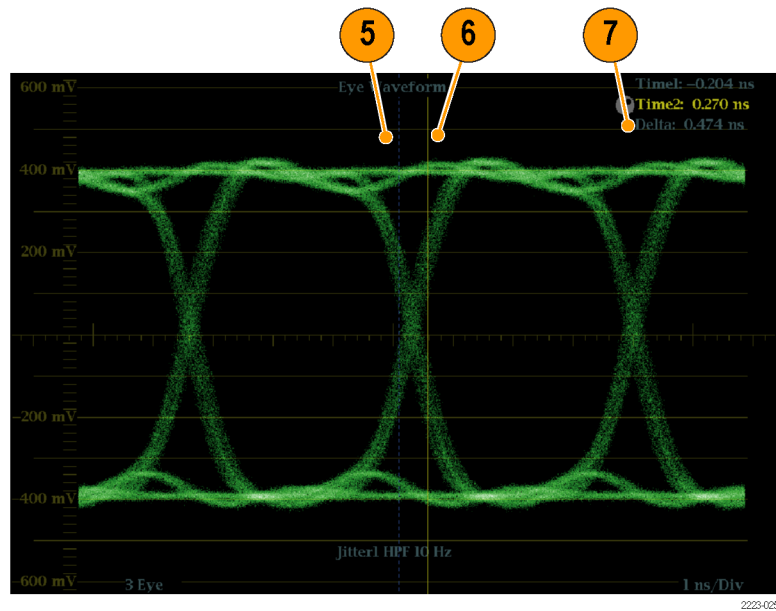

Figure 51: Measuring rise time using variable gain in eye
5. Position the first timing cursor at the crossing of the rising edge of the Eye waveform and the graticule line two divisions above the bottom of the waveform. (See Figure 51.)
6. Position the second time cursor at the crossing of the rising edge of the Eye waveform and the graticule line two divisions below the top of the waveform. (See Figure 51.)
7. Note the 20 – 80% rise time measurement displayed in the Delta time readout. (See Figure 51.)